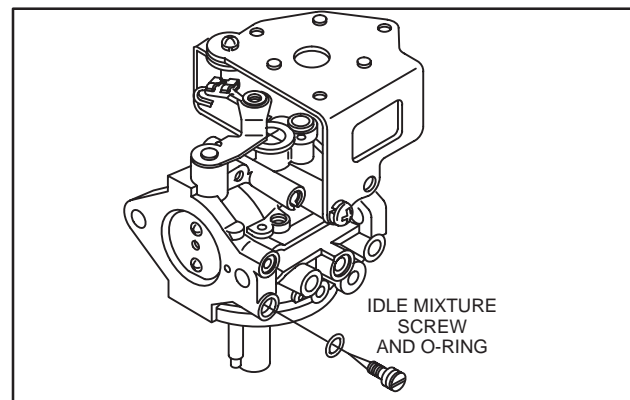

Fig. 41 – Installing Idle Mixture Screw
2. Install idle mixture screw with new “O”-ring, Fig. 41.